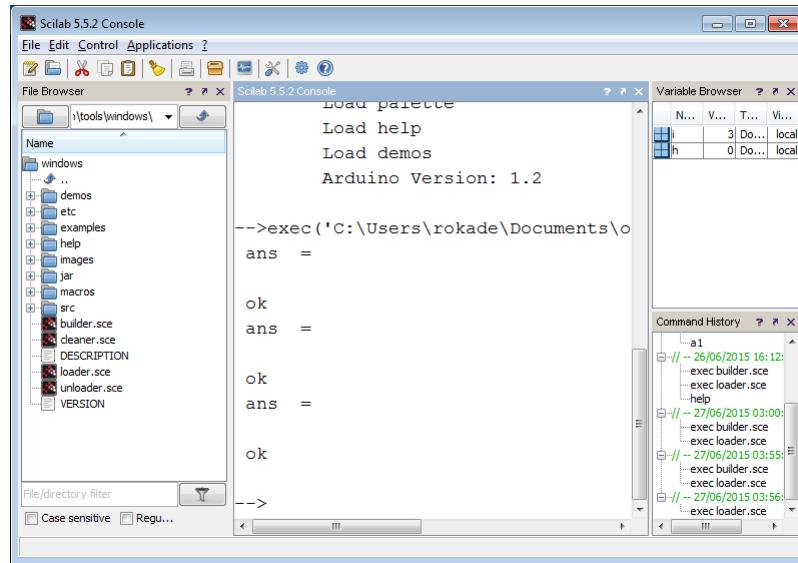

Figure 3.15: Scilab test code output
7. To execute this code, on the menu bar, click on the **Execute**, option. Then choose **File with no echo**. The output will appear on the Console as shown in Fig. 3.15. As shown in the figure, we see the response of this code as “ans = ” and “ok” three times. The code basically gives some input to Arduino three times and the program inside it returns “ok” three times. This code thus confirms the working of the Scilab-Arduino toolbox. The code also confirms that the firmware inside the Arduino is correct. It is alright if one or two of the attempts out of three give a blank response. But all the three responses certainly should not be blank5.